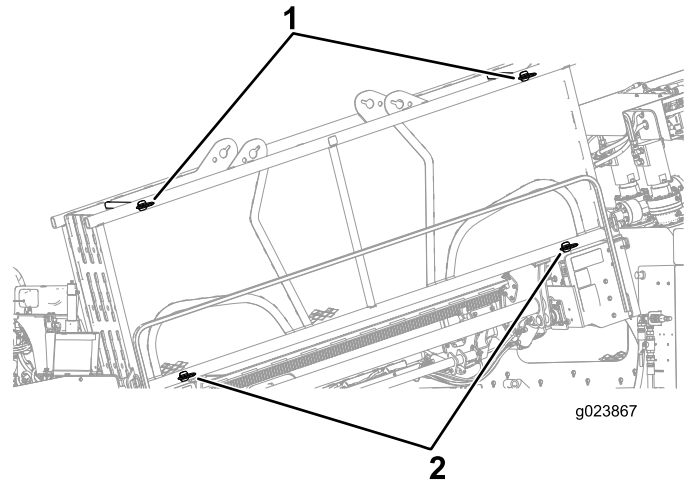

Figure 91
1. Ensure that the 2 upper pins and the 2 lower pins are installed to secure the pipe inside the pipe holder (Figure 91).